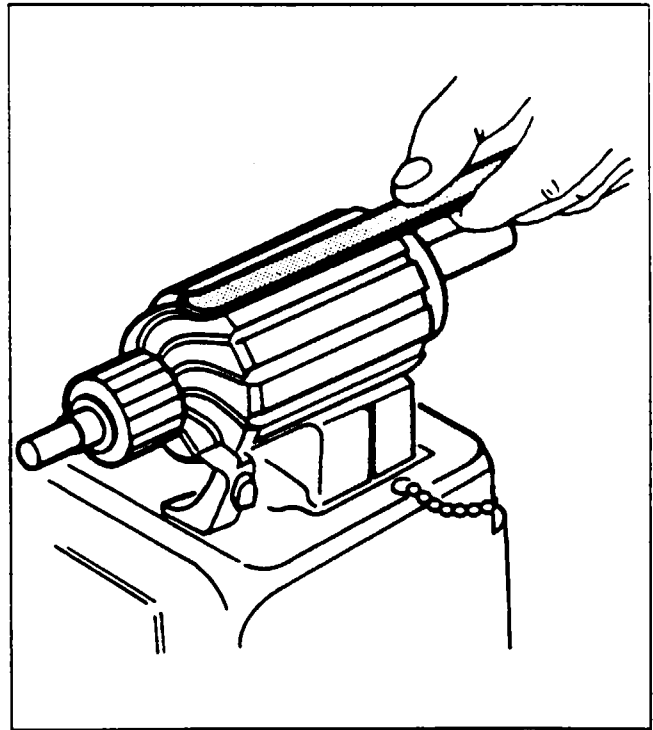

Figure 80-3. Testing Motor
3. To test for shorted armature coils, a growler is used. (Refer to Figure 80-3.) The armature is placed on the growler and slowly rotated by hand while a steel strip is held over the core so that it passes over each armature core slot. If a coil is shorted, the steel strip will vibrate.